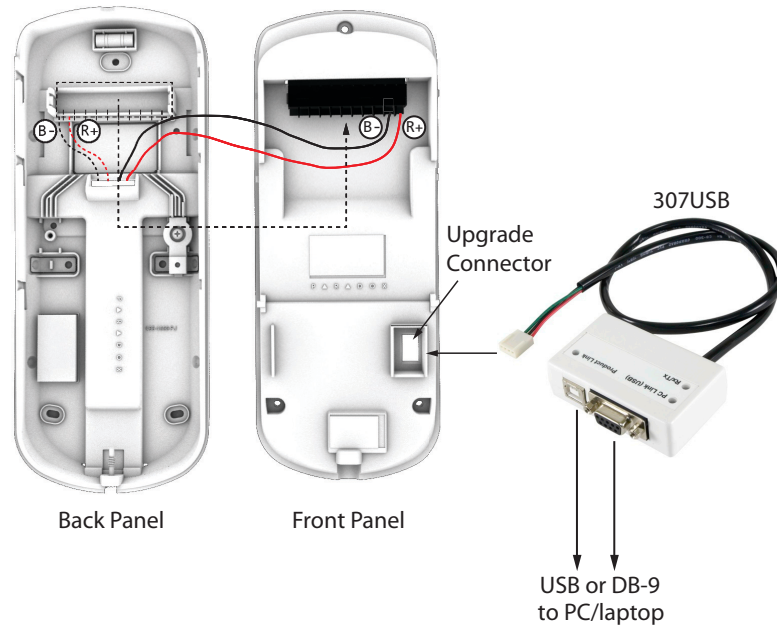

Figure 10: Upgrading the NVX80's Firmware
- a Paradox 307USB device (shown in *Figure 10*)